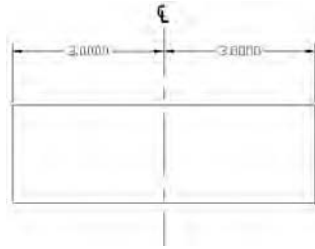

FIGURE 11.41: The center line symbol and a center line used as part of two dimensions
4. Turn off osnaps, be sure Polar is on, and click the same grip you did in the previous step. Move the symbol up slightly to create a space between it and the center line (see Figure 11.41).